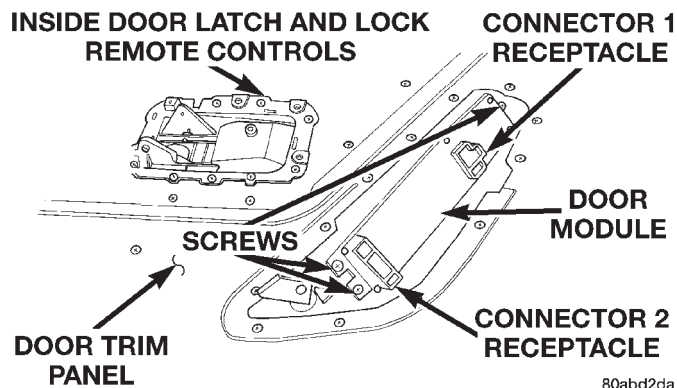

Fig. 4 Door Module Remove/Install
(4) Lift the door trim panel upwards and away from the door to disengage the top of the panel from the inner belt weatherstrip.
(5) Pull the door trim panel away from the inner door far enough to access the inside door latch release and lock linkage rods near the back of the inside door remote controls.
(6) Unsnap the plastic retainer clips from the inside door remote control ends of the latch release and lock linkage rods, and remove the rod ends from the inside door remote controls.
(7) Unplug the wire harness connectors from the door module.
(8) Remove the front door trim panel from the vehicle.
(9) Remove the three screws that secure the door module to the door trim panel (Fig. 4).